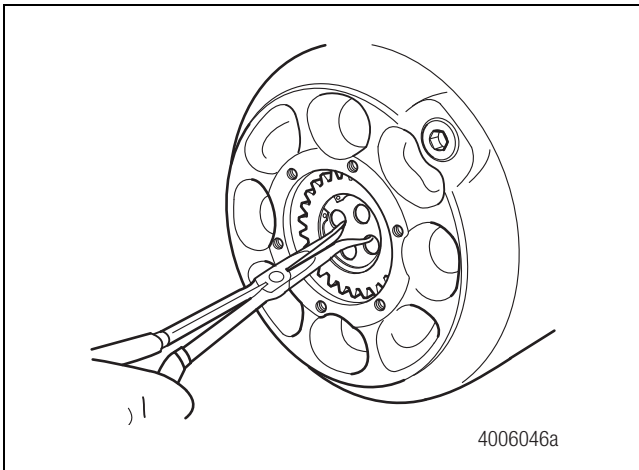

Figure 3.3
4. Use pliers or other suitable tool to secure and remove the sun gear from the hub housing. Figure 3.3.